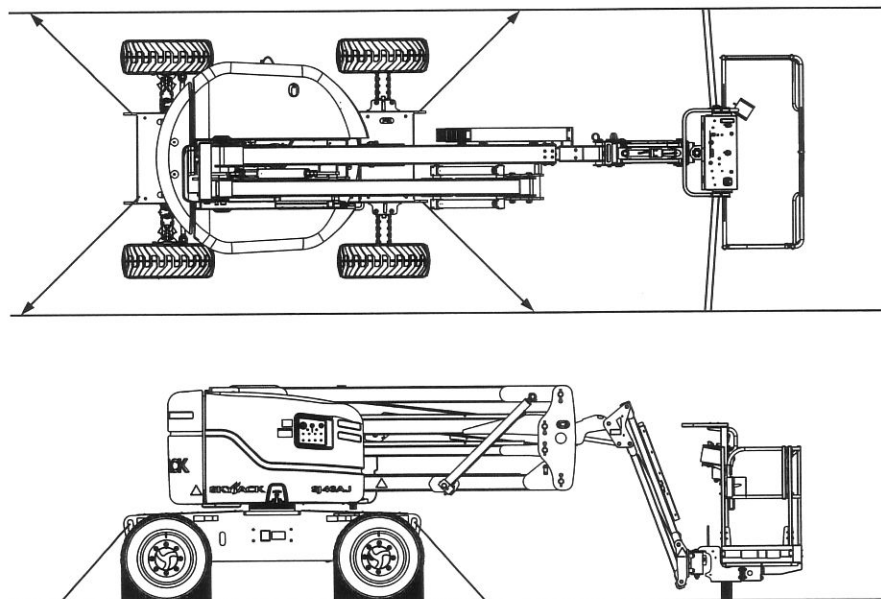

Figure 2-10. Tie-down Points
6. Anchor down aerial platform to transport surface using tie-down points (refer to Figure 2-10).